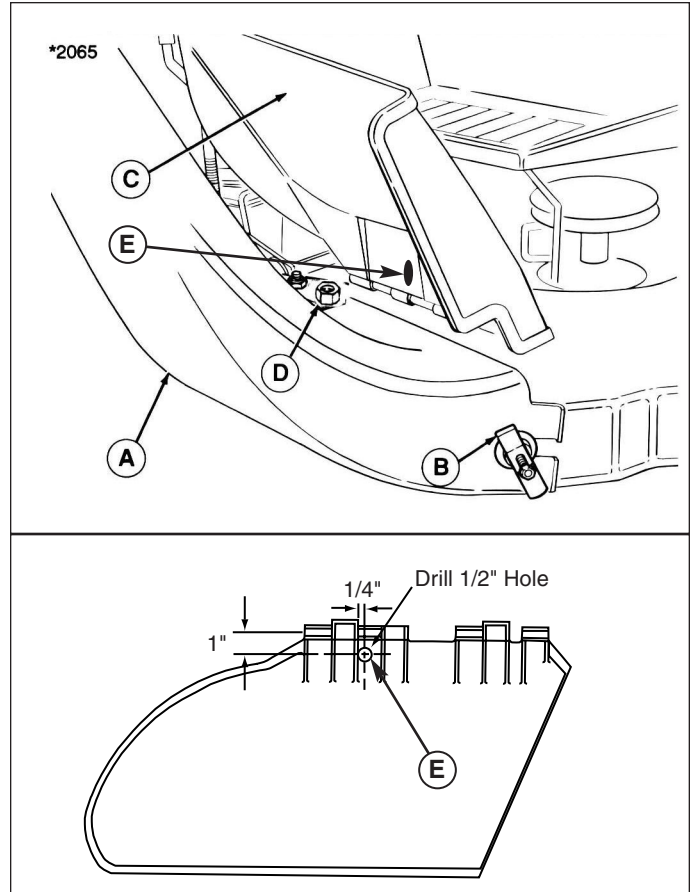

Figure 9. (30" Mower Shown)
4. Place adapter over rear carriage bolt (A, figure 9) and position front slot of adapter between mower deck and wing nut (B). Install jam nut (C) on carriage bolt. Securely tighten both jam nut and wing nut.